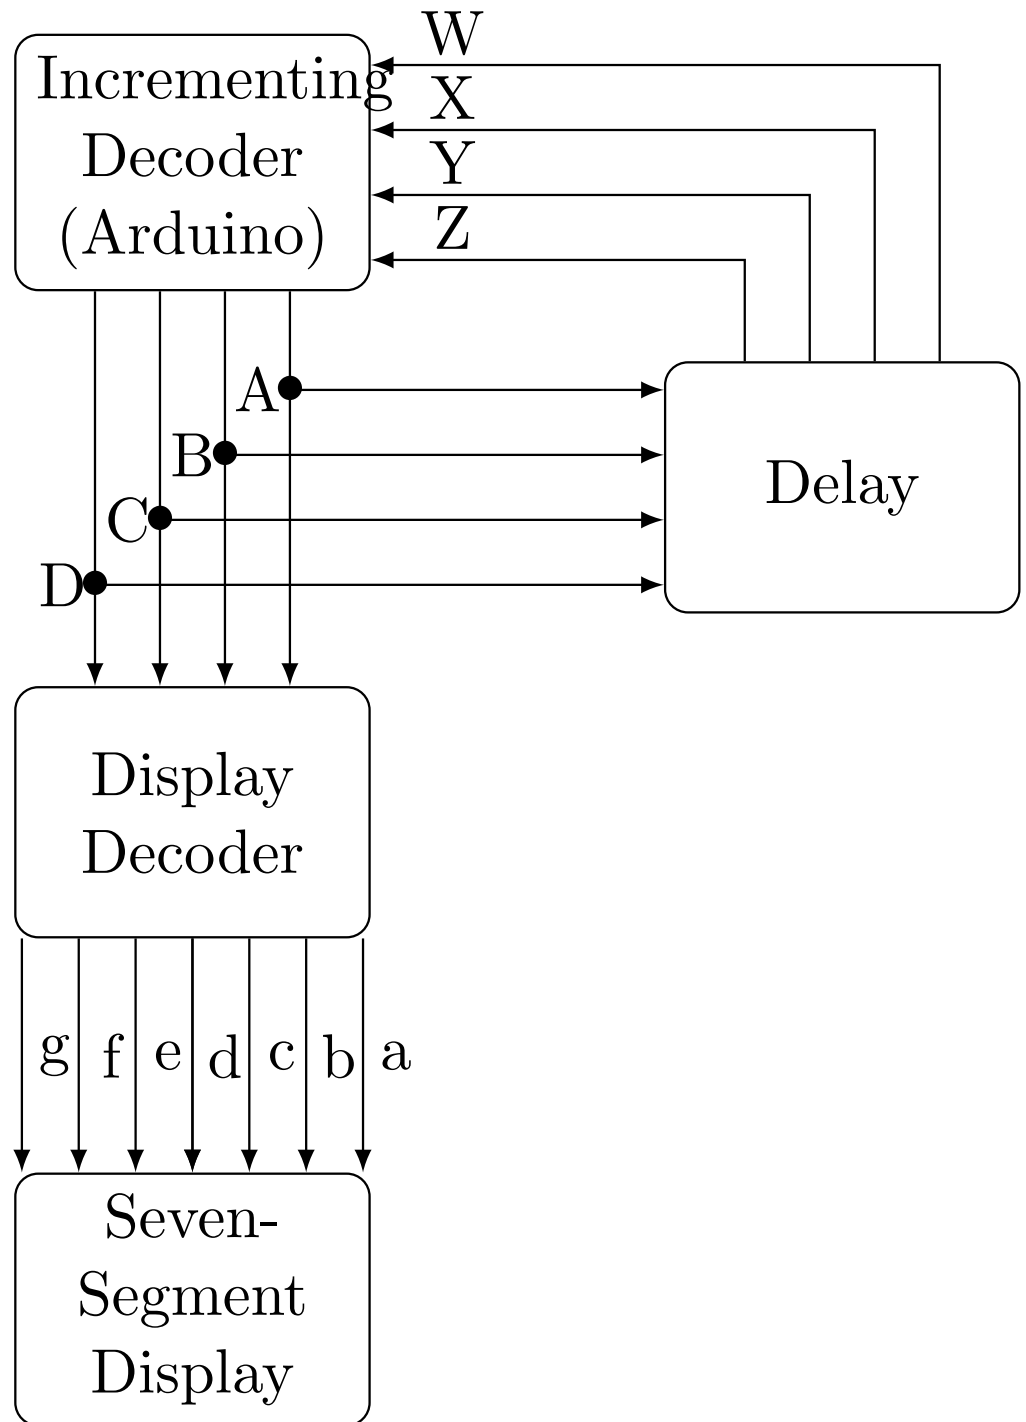
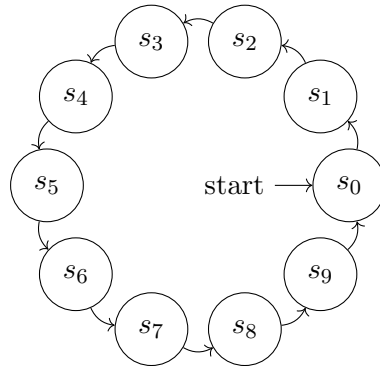
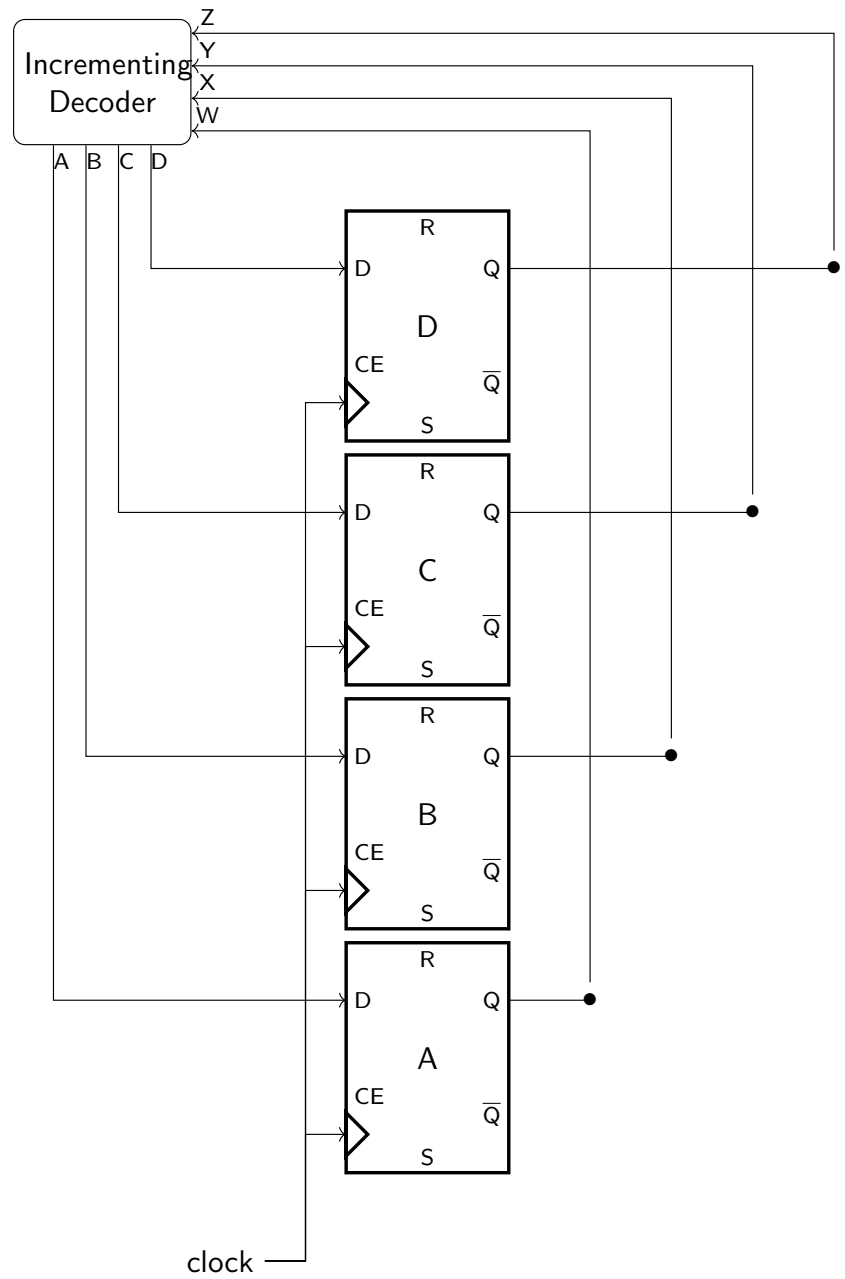

Figure 5.2:
Figure 6.1: FSM for the decade counter
Figure 6.2: Decade counter FSM implementation using D-Flip Flops
2. Connect the Arduino, 7447 and the two 7474 ICs according to Table 5.2 and Fig. 5.2.
3. Realize the decade counter in Fig. 5.2.
The block diagram of a decade counter (repeatedly counts up from 0 to 9) is available in Fig 5.2 The incrementing decoder and display decoder are part of combinational logic, while the delay is part of sequential logic
1. Fig 6.1 shows a finite state machine (FSM) diagram for the decade counter in Fig 5.2 s_0 is the state when the input to the incrementing decoder is 0 The state transition table for the FSM is Table 3.5, where the present state is denoted by the variables W, X, Y, Z and the next state by A, B, C, D .
2. The FSM implementation is available in Fig 6.2 The flip-flops hold the input for the time that is given by the clock This is nothing but the implementation of the Delay block in Fig 5.2
For the FSM in Fig 6.1, the number of states is 10, hence the number flipflops required